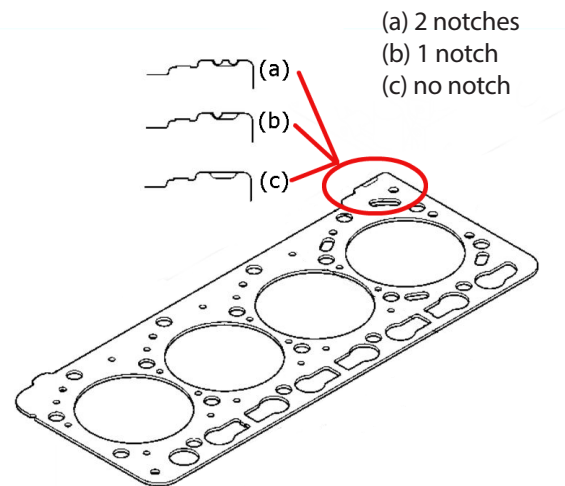

Figure 1.
1. Make note of the notch mark (a), (b) or (c) of cylinder head gasket (Figure 1) in advance.